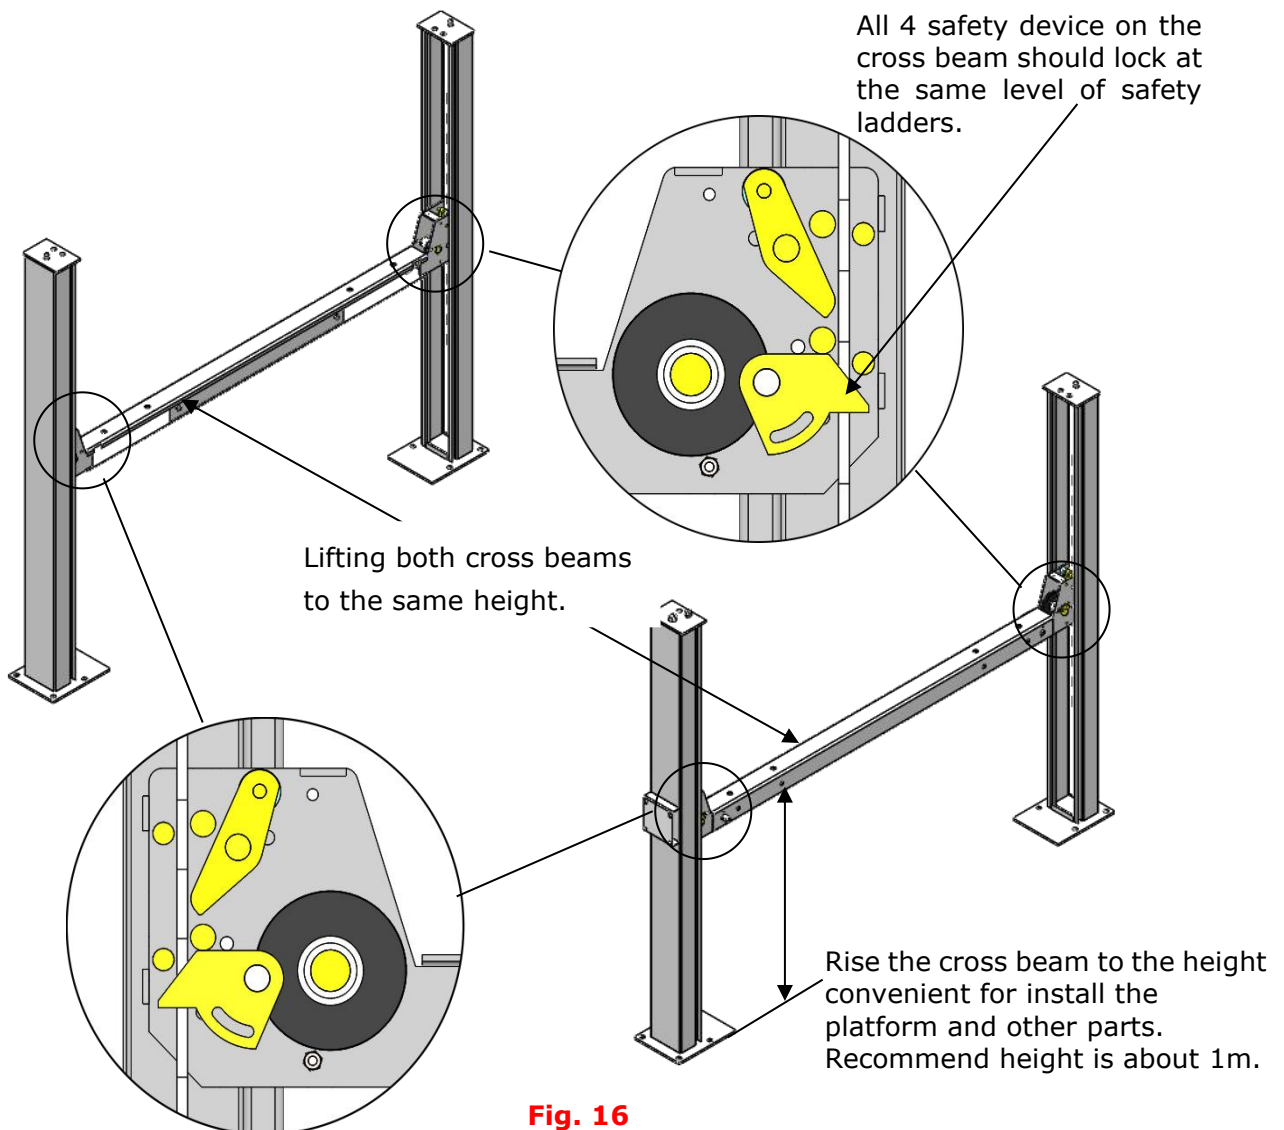

Fig. 16
E. Put the cross beams to the same height and lock at the safety ladder (See Fig. 16).